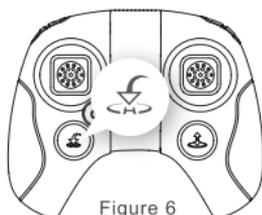

Figure 6
- 3) Tap the Return to Home icon. The aircraft will return and slowly descend to the ground. (Figure 6)